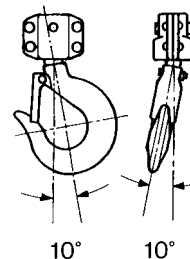

Fig. 1
- If the vertical angle at the neck of the bottom or top hook reaches 10°, replace the hook, (Fig. 1).